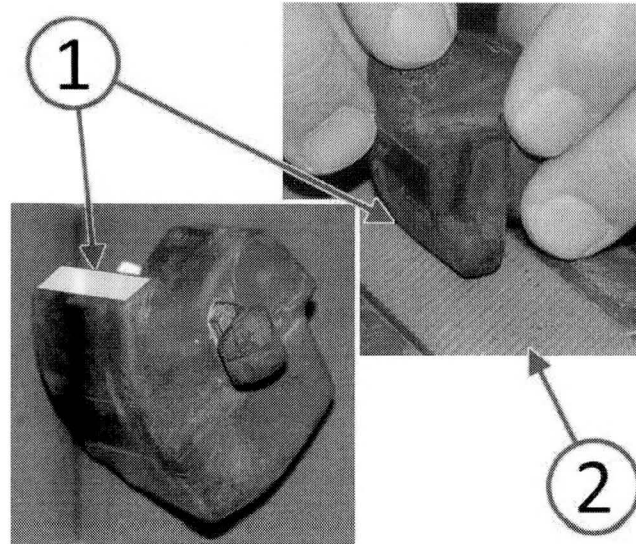

Fig. 2 Modify Bumper
5. Using a coarse file (2), remove 1 mm of material from the rubber bumper surface (1) indicated in (Fig. 2).